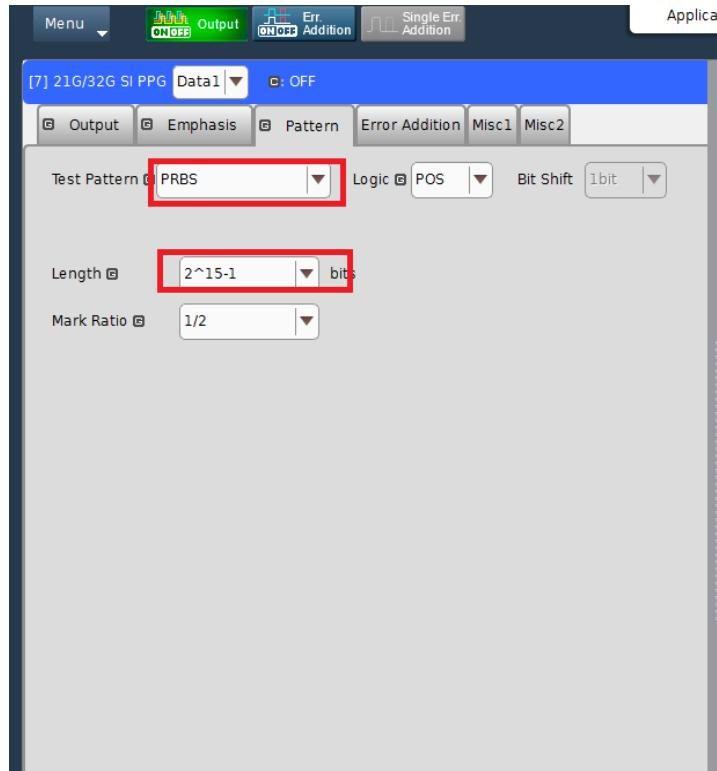

FIGURE 46. PATTERN SETTING
- h) Set Test Pattern on PPG to “PRBS” and Length to “ $2^{15}-1$ ” bits. See Figure 46.